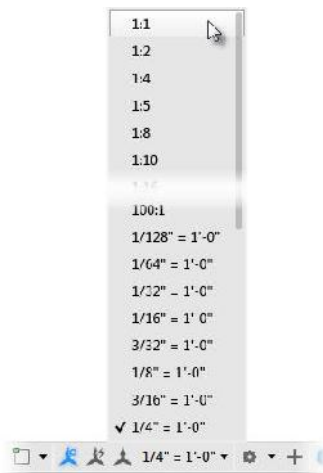

FIGURE 9.2: Changing the current annotation scale to 1:1
6. Change your current annotation scale to 1:1, as shown in Figure 9.2.